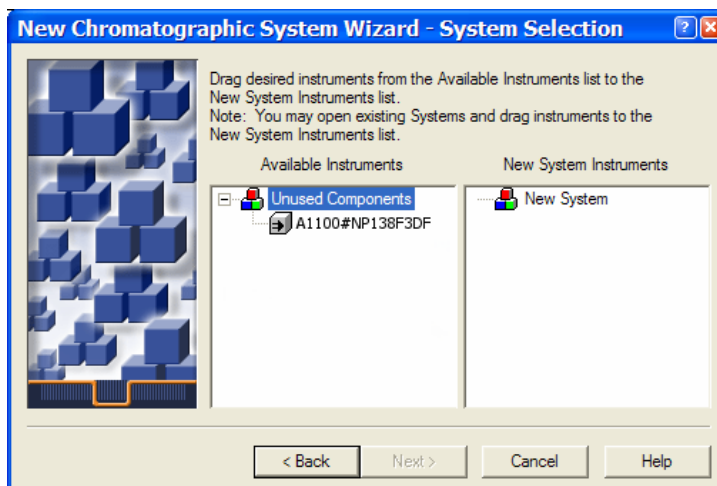

Figure 12: New Chromatographic System Wizard – System Selection Page
22. Create a system that includes the A1100 you just configured using the New Chromatographic System Wizard (Figure 12).